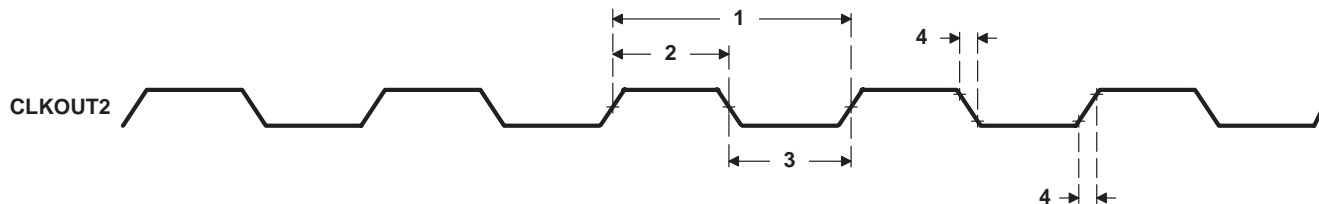

**Figure 9. CLKOUT1 Timings**
**switching characteristics for CLKOUT1†‡ (see Figure 9)**